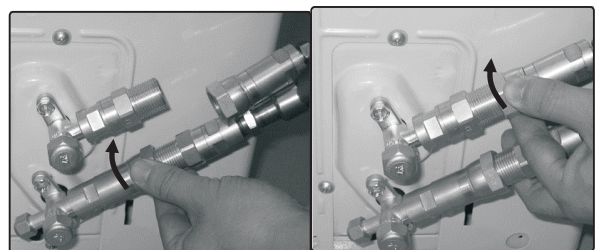

Fig.6.3
3. Align the refrigerant pipes correctly so that they line up with the valves and are not stressed. Place the screw connector on the refrigerant line just on to the thread on the outdoor unit and tighten the first few threads by hand, fig.6.3.